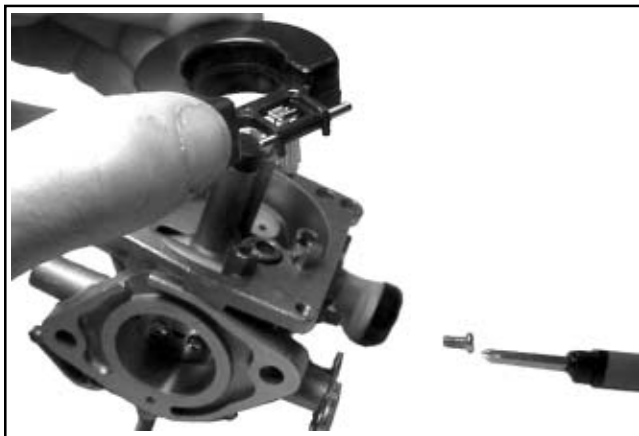

Figure 5-9. Removing Float and Inlet Needle.
2. Remove the float pin screw and lift out the old float, pin, and inlet needle. See Figure 5-9 Discard all of the parts. The seat for the inlet needle is not serviceable, and should not be removed.